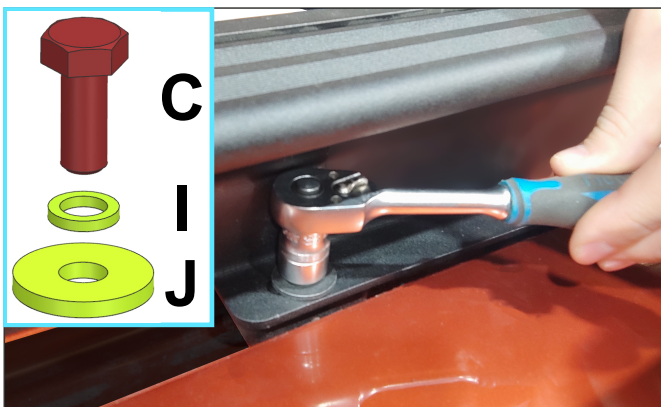

Fig. 16
12. Fix the roof rack on both sides of the vehicle using bolts M8x30 (item C), washers spring 8 (item I) and flat washers 8 (item J) (fig. 16).